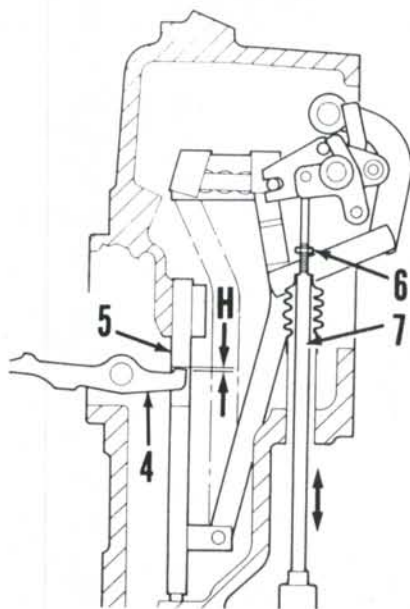

Fig. 253—Adjust draft transfer rod on Model 1594 to provide 2 mm (0.080 inch) gap (H) between rocker lever and sliding bar. Refer to paragraph 319.
Move sensing control lever fully rearward to full draft position. Loosen locknut (6—Fig. 253) on transfer rod (7),